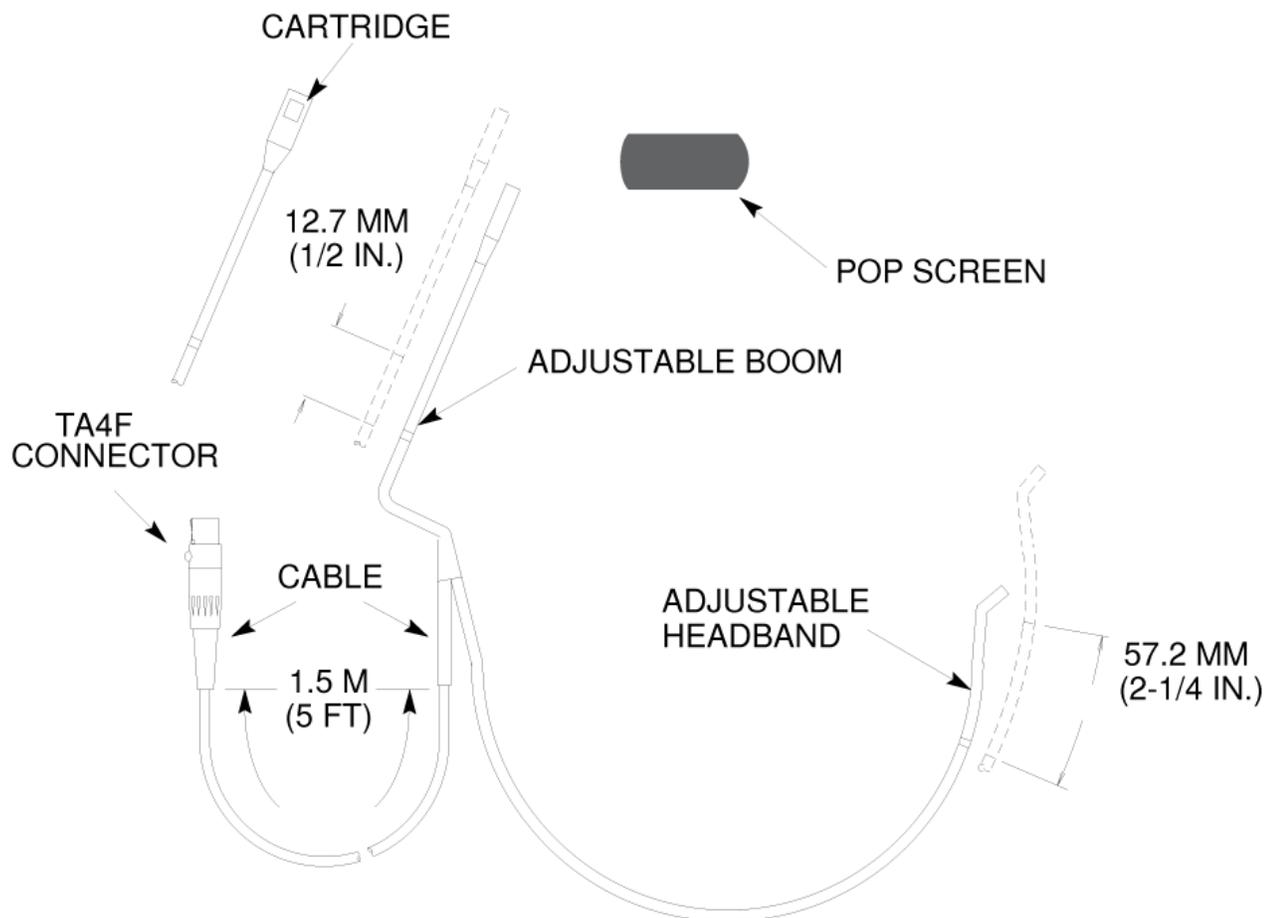

Figure 1: PARTS OF THE WCM16 HEAD-WORN MICROPHONE
1. Place the microphone on the user's head so that the large diameter band is horizontal across the back of the head. The band may be completely hidden under the hair. The ends of the headband should fit comfortably in front of the ears. Extend or retract the adjustable headband (see Figure 1) to achieve this result.
2. For maximum gain before feedback, carefully extend or retract the boom (see Figure 1) so that the microphone grille (silver side) is within 40 mm (1-1/2 in.) of the left corner of the mouth. It may be necessary to bend the
The hypercardioid unidirectional pickup pattern of the WCM16 has maximum rejection of unwanted sound sources at about a 110° angle each way from the front axis of the microphone (see Figure 1). Directly to the rear of the microphone (at 180°) there is as little as 6dB rejection-not much less pickup than at the front of the microphone (at 0°).